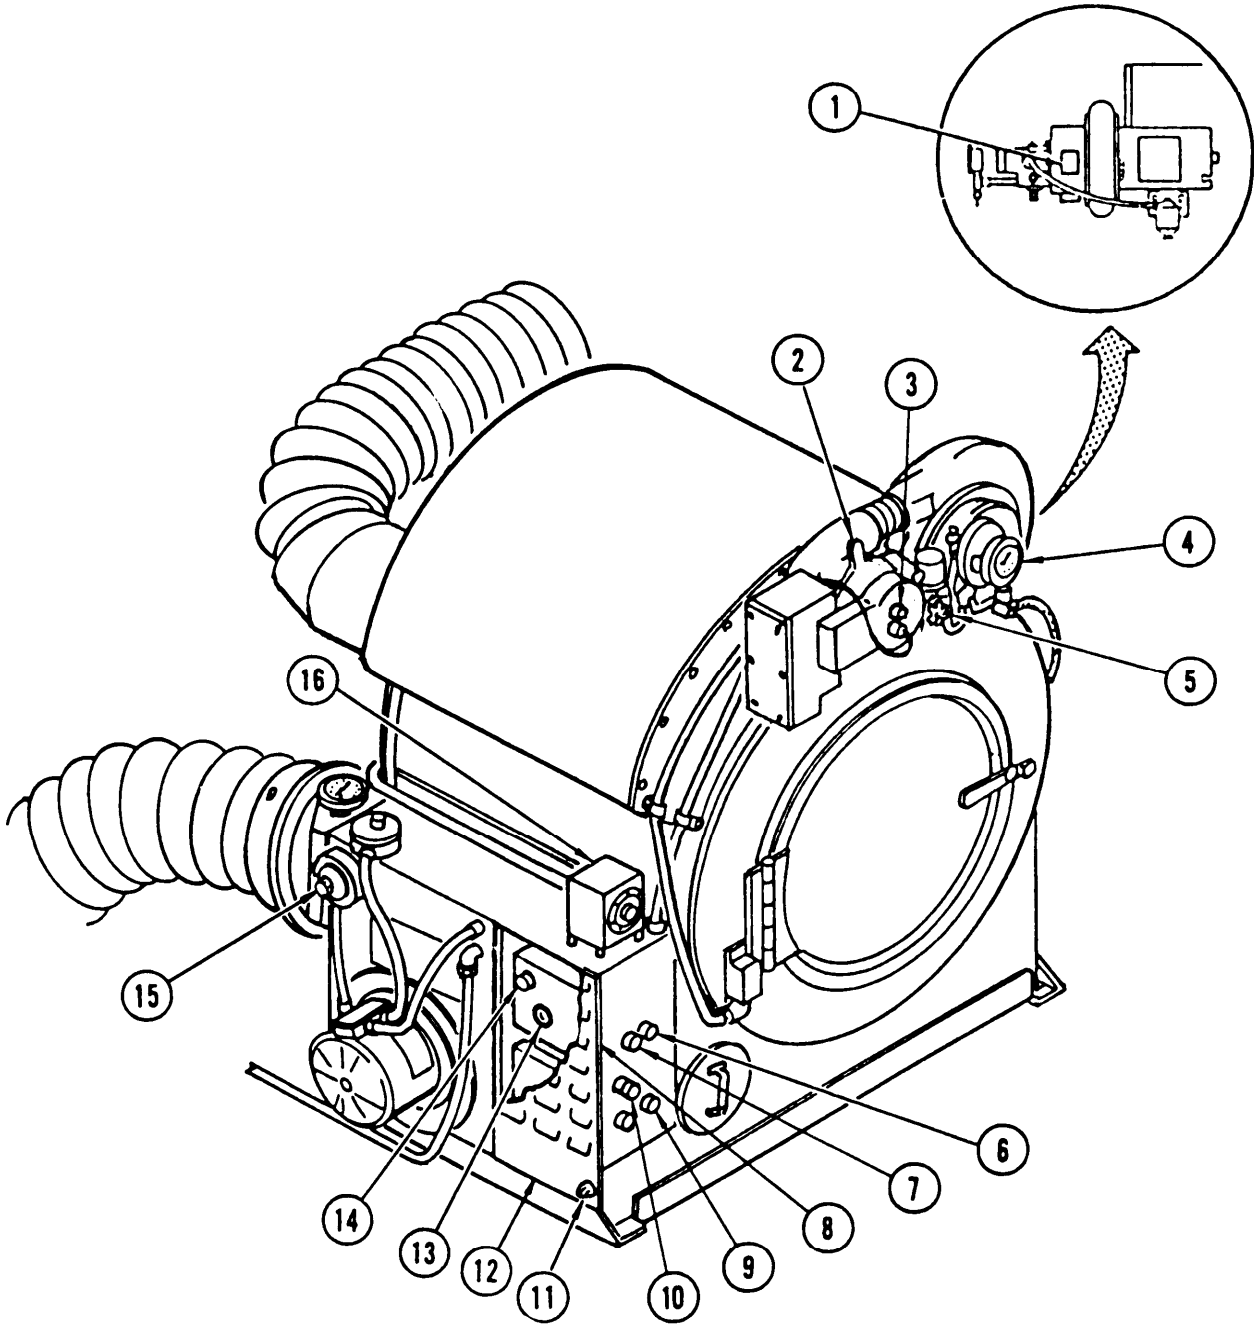

Figure 2-19. Drying Tumbler Controls.
- (1) Set thermostwitch (15, figure 2-19) as follows:
- (2) Set electric timer (16) to approximately 10 minutes.
- (3) Adjust burner air intake (1) to approximately 1/2 inch (12.7 mm).
- (4) Close fuel shutoff valve (5).
- (5) Remove three thumb screws (11) on panel door (12) of dryer control panel (8) and open panel door (12).
- (6) Press reset button (14) on safeWard control unit (13). Close and secure panel door with three thumb screws (11).
- (7) Push START button (7) on dryer control panel (8).
- (8) Check fuel pressure gage (4) for an indication of approximately 100 psi (690 kPa).